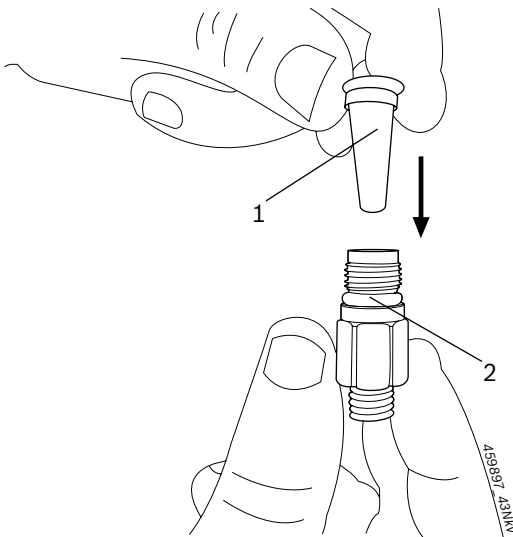

Fig. 12: Removing the filter insert
6. Remove the filter insert (Fig. 12, Pos. 1) from within the adapter (Fig. 12, Pos. 2).